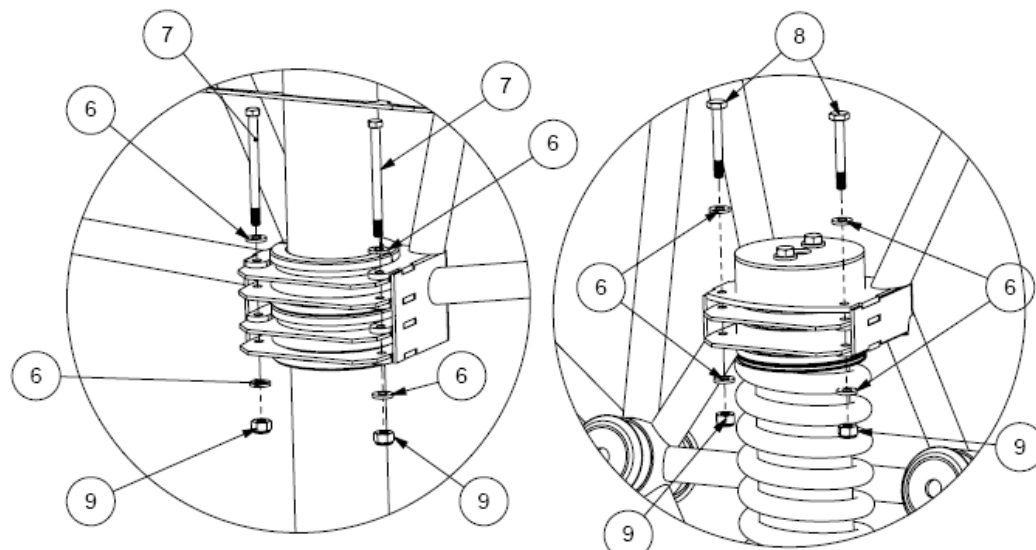

Figure 47: Nose gear installation.
- Tighten the lock-nuts sufficiently, observe the correct placement of washers and bearings (refer to Figure 47) and note that the bolts are installed with the bolt heads facing up.